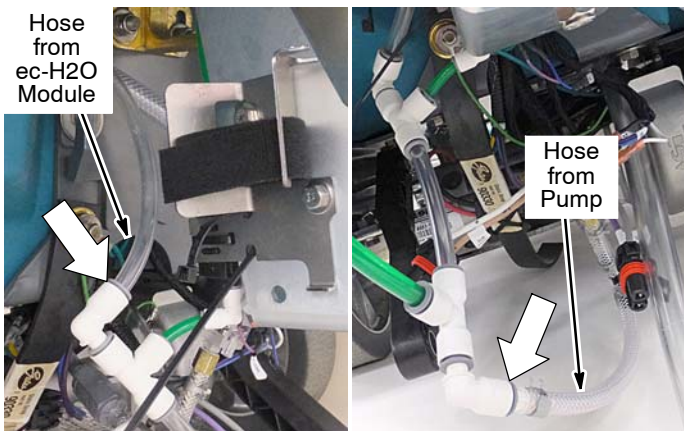

Fig. 49
- Connect the clear hose from the ec-H2O module to the water conditioning pump assembly as shown (Figure 49). Connect the braided hose from the ec-H2O pump hose assembly to the water conditioning pump assembly as shown (Figure 49).